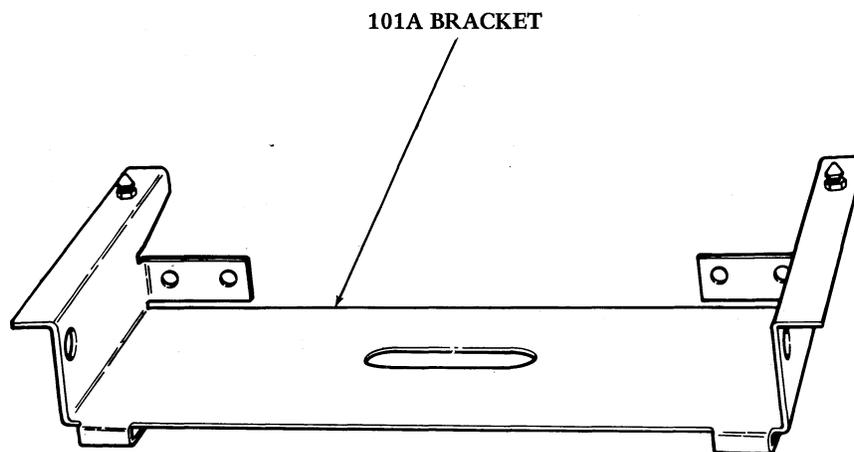

Figure 20 - Mounting Bracket
4.48 The 1A data station is contained in a 31A2 data mounting and is mounted into a 33 or 35 teletypewriter with brackets 100A and 101A respectively (Figure 20). The mounting brackets each contain hardware and a fixed mounting stud that is part of the bracket. For additional information concerning the 1A data station, refer to Section 591-813-201.